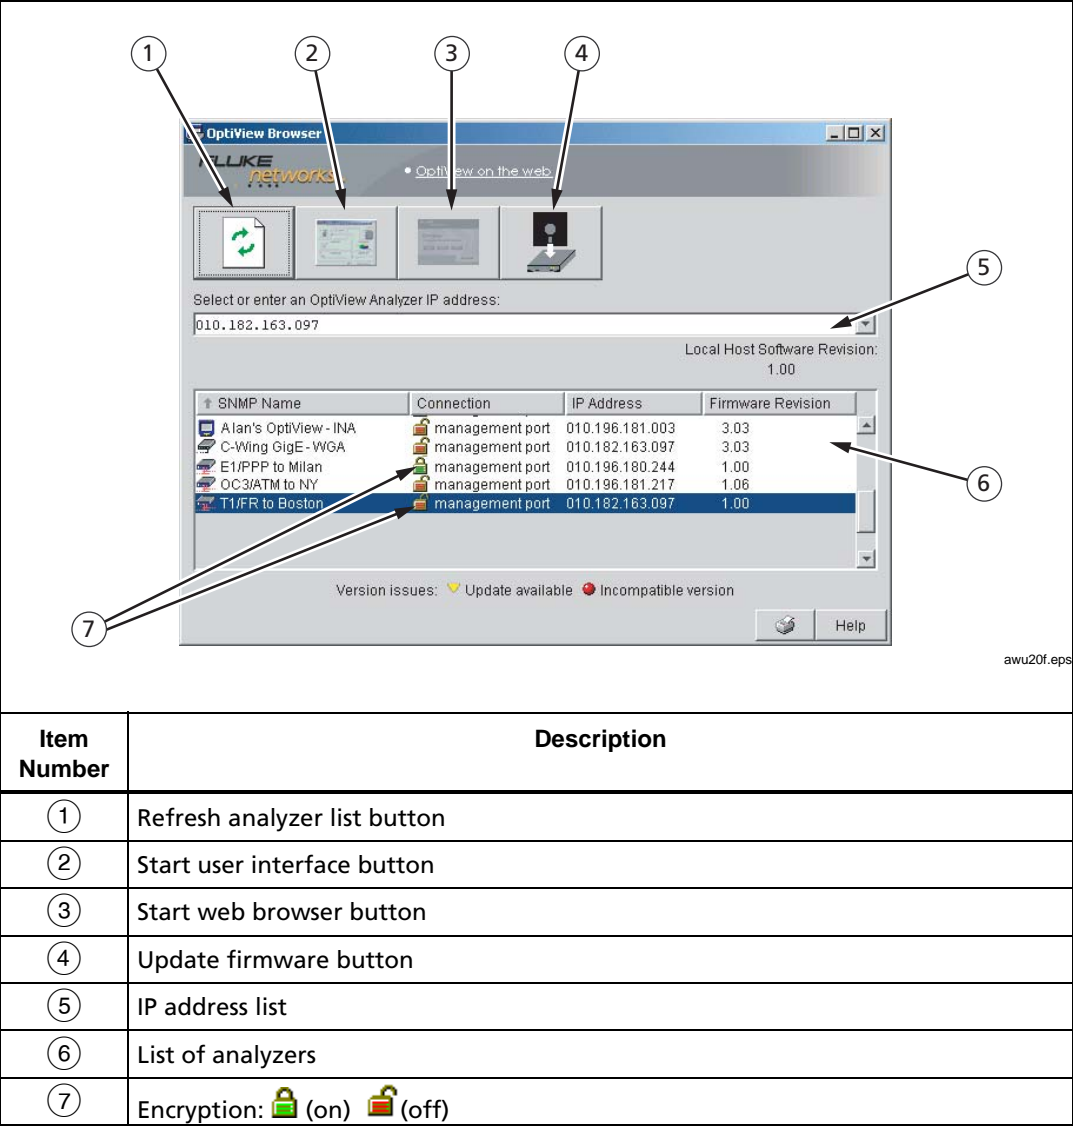

Figure 12. The OptiView Browser
The **OptiView Browser** (Figure 12) is displayed.
- Select the analyzer from the list of analyzers at the bottom of the screen. Then, click the Start User Interface button (Figure 12).
The **OptiView Browser** (Figure 12) is the first screen that you see after you start the remote user interface software on the remote controlling PC. From this screen, you can access any OptiView analyzer within the network that has a path to the remote controlling PC.